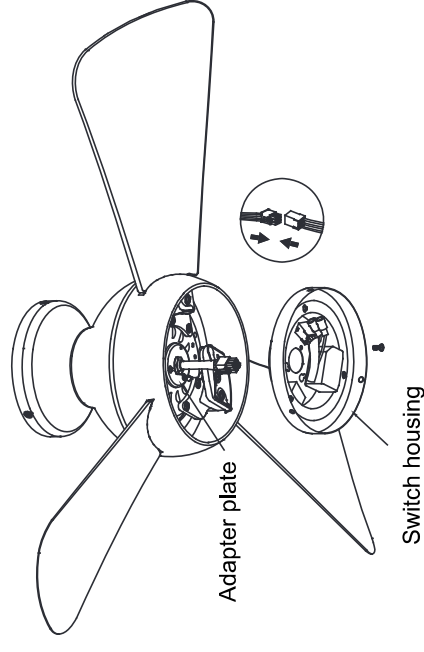

Fig. 13
Step 3. Remove one of the three screws in the adapter plate at the bottom of the motor assembly and retain the screw for later use. Slightly loosen the remaining two screws. Place the motor connector through the center hole of the switch housing. Engage the switch housing 9-pin connector with the motor connector. The two connectors have keyholes that must be mated correctly before they can be engaged. Rotate the switch housing key hole slots clockwise to engage both loosened screws. Reinstall the previous removed screw. Secure the switch housing to the adapter plate by tightening the three screws (**Fig. 13**).